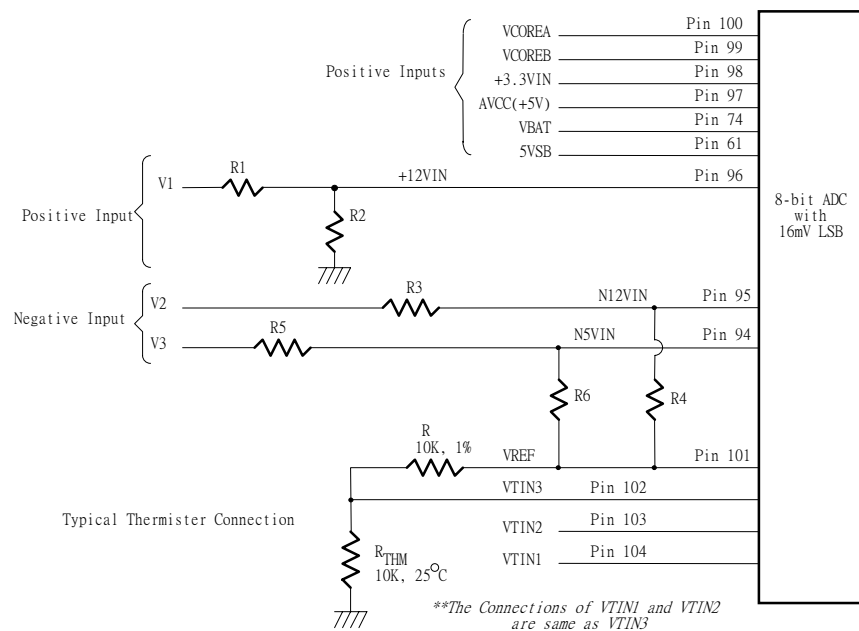

Figure. 11.2
The maximum input voltage of the analog pin is 4.096V because the 8-bit ADC has a 16mV LSB. Really, the application of the PC monitoring would most often be connected to power suppliers. The CPU V-core voltage, +3.3V, battery and 5VSB voltage can directly connected to these analog inputs. The +12V, -12V and -5V voltage inputs should be reduced a factor with external resistors so as to obtain the input range. As Figure 11.2 shows.
The negative voltage should be connected two series resistors and a positive voltage VREF (is equal to 3.6V). In the Figure 11.2, the voltage V2 and V3 are two negative voltage which they are -12V and -5V respectively. The voltage V2 is connected to two serial resistors then is connected to another terminal VREF which is positive voltage. So as that the voltage node N12VIN can be obtain a posedge voltage if the scales of the two serial resirtors are carefully selected. It is recommended from Winbond that the scale of two serial resistors are R3=232K ohms and R4=56K ohm. The input voltage of node N12VIN can be calculated by following equation.
The W83627HF can connect three thermistors to measure three different envirmnt temperature. The specification of thermistor should be considered to (1) β value is 3435K, (2) resistor value is 10K ohms at 25°C. In the Figure 11.2, the themistor is connected by a serial resistor with 10K Ohms, then connect to VREF (Pin 101).